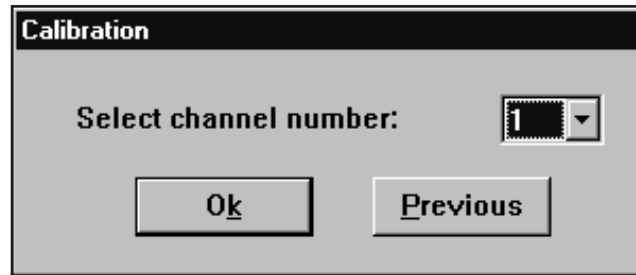
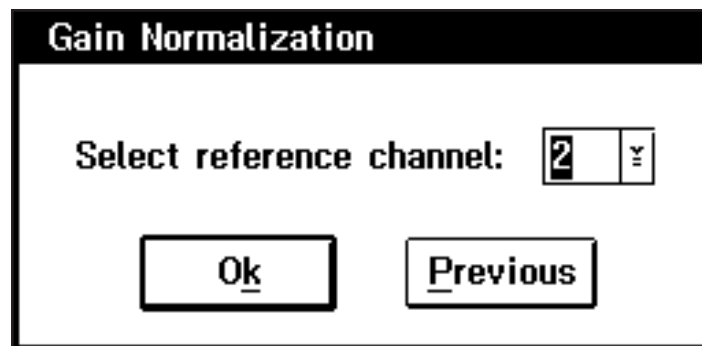
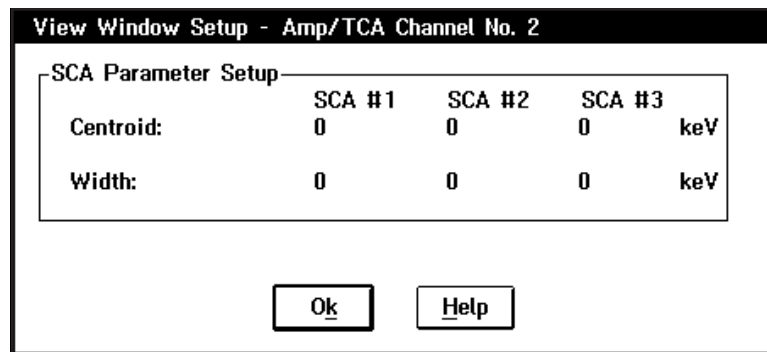

Figure 14 Selecting the 2016 to Calibrate
Figure 17 Selecting the Reference Channel
Figure 19 Viewing the Setup Parameters
2. Now you'll see the screen shown in Figure 14, which allows you to select the channel (that is, the specific 2016) that is to be calibrated.
- i. At this time, you will be returned to Figure 14. Select Previous to return back to the main menu; select Ok to calibration another 2016 channel. For most conditions, only one 2016 channel needs to be calibrated, the remaining channels can be setup via the Gain Normalization process (refer to next section for more details). Under certain operating conditions (primarily very short shaping times), it may be necessary to individually calibrate each channel to accommodate small differences in ADC / SCA peak detect timing.
2. The procedure starts with the screen in Figure 14, which lets you select a channel to be gain normalized. Pressing Ok brings up the screen in Figure 17, which asks you to select a previously calibrated channel to use as the reference.
2. The procedure starts with Figure 14 and proceeds to the screen shown in Figure 19, which displays the parameters for the selected 2016's three SCAs.